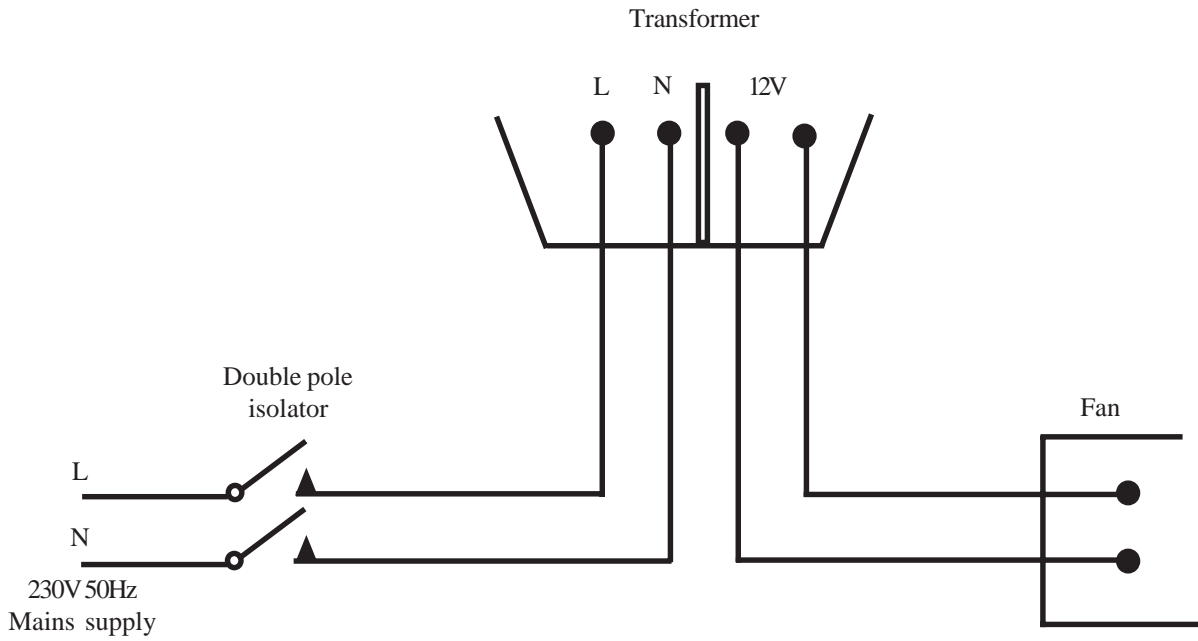

Fig. 1
- 7.4 Referring to Figs. 1 or 2 as appropriate, connect the fan as detailed.